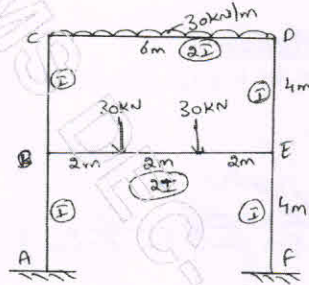

Fig.Q6
- 6 Analyze the frame shown in Fig.Q6 by Kani's method. Draw BMD.